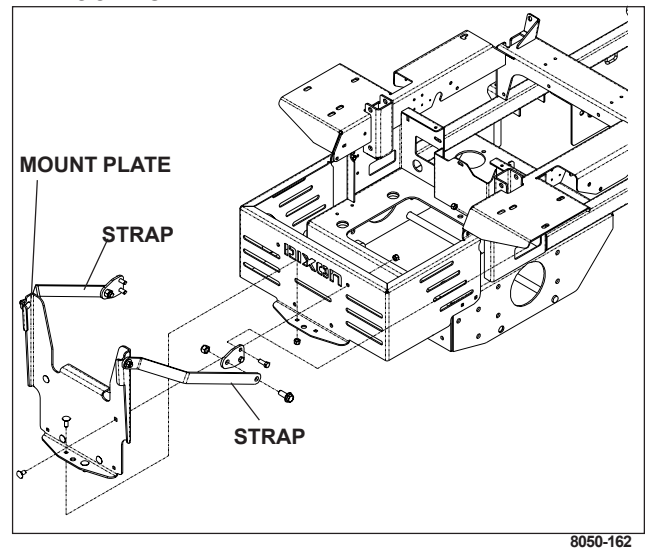

FIGURE 2
3. Attach a bagger strap to side hole in bagger mount plate. Use 3/8-16 x 1" carriage bolt, 3/8" washer and 3/8-16" nyloc nut. Attach other end of bagger brace to top front hole in engine guard, using existing frame hardware. Refer to Figure 2. Repeat for other side of machine.